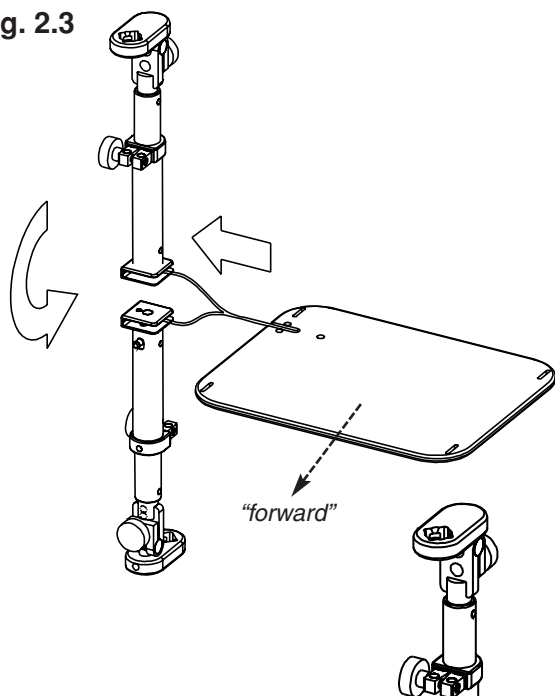

Fig. 2.4
- Turn the base plate so that the mounting post is upright. (See Fig. 2.4)
- Thread the base plate straps top-down through the base plate and secure the velcro. (See Fig. 2.4)